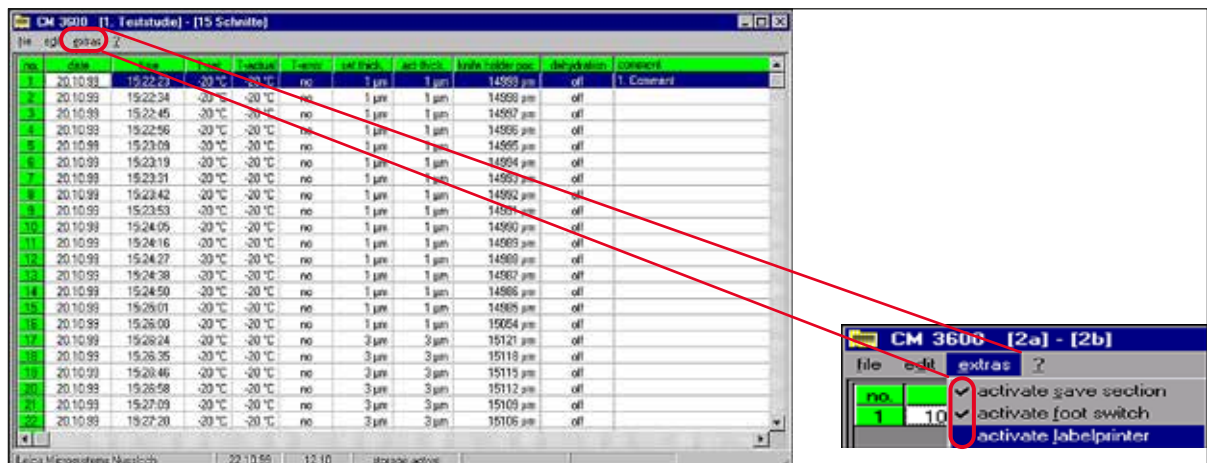

Fig. 86
- Once the measuring position reaches 100,000  $\mu\text{m}$ , interrupt sectioning recording (for deactivating the **Save** menu item, see (→ Fig. 86) under **Extras** in the study) and the switch over the knife holder.